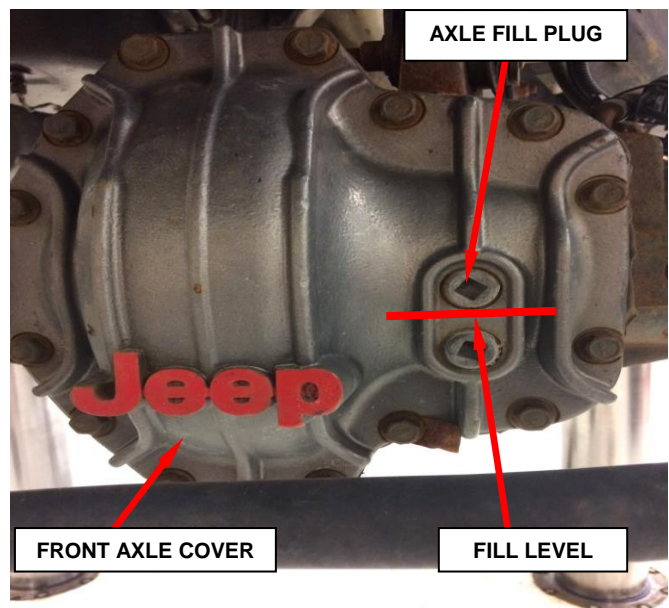

Figure 15 – Front Axle
- 34. Remove the front axle lube fill plug, and check lube level, add if necessary (Figure 15).